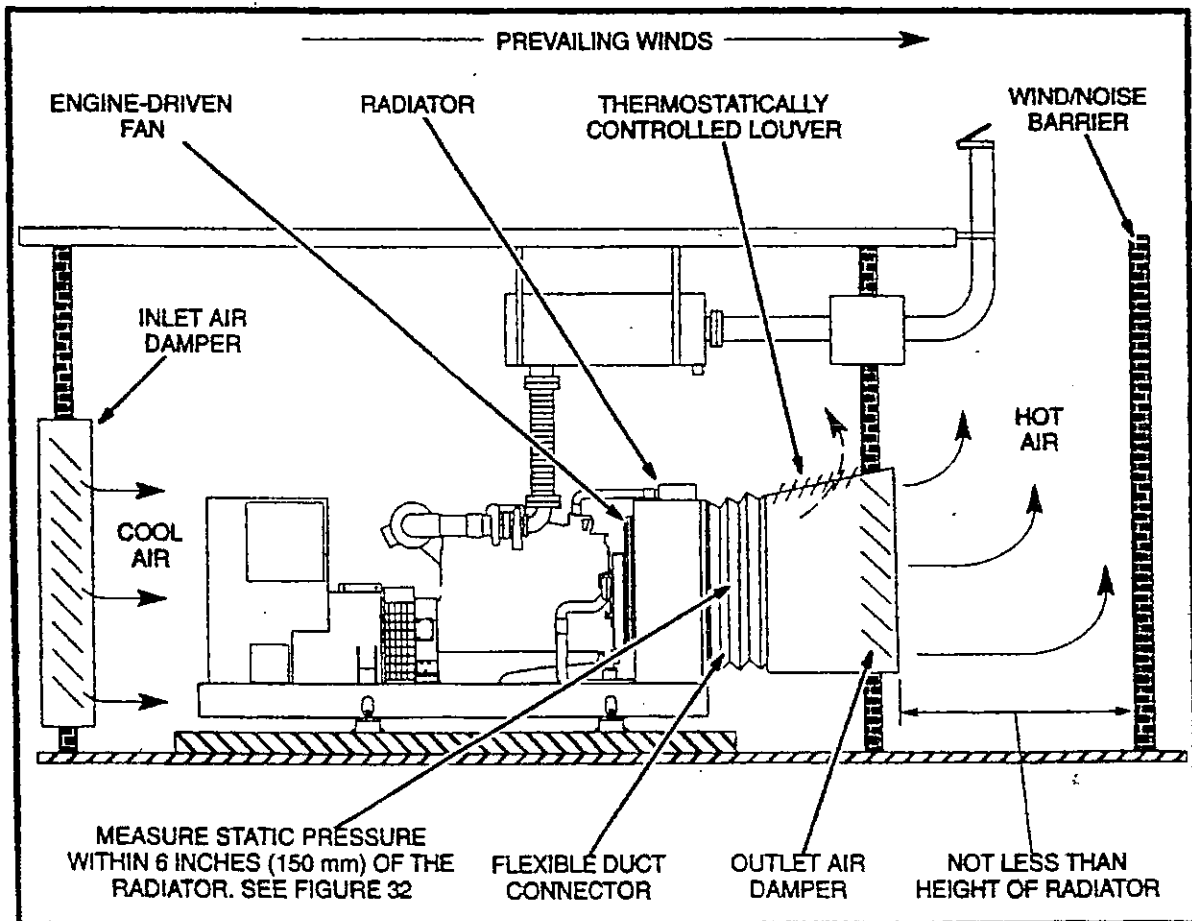

FIGURE 31. FACTORY-MOUNTED RADIATOR COOLING
In this configuration (Figure 31), the fan draws air over the set and pushes it through the radiator which has flanges for connecting a duct to the out-of-doors. Consider the following:
- See the generator set Specification Sheet for the design airflow through the radiator, allowable airflow restriction and minimum air inlet and outlet opening areas. **The allowable air flow restriction must not be exceeded.** The static pressure (air flow restriction) should be measured as shown in Figures 31 and 32 to confirm, before the set is placed in service, that the system is not too restrictive, especially when ventilating air is supplied and discharged through long ducts, restrictive grilles, screens and louvers.